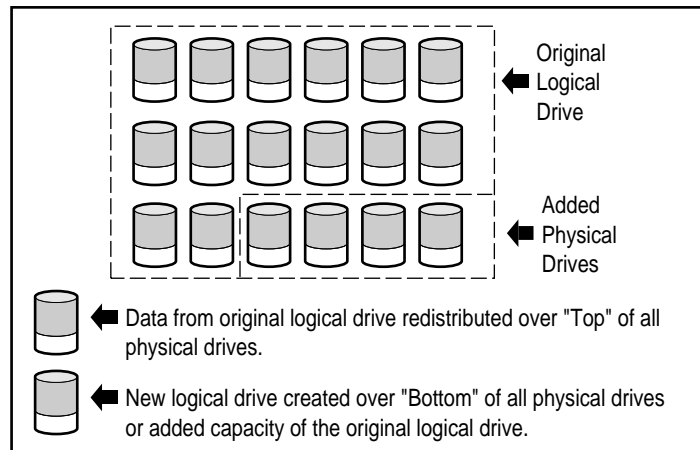

Figure E-10. Beginning capacity expansion by adding more physical drives
The Smart Array 3200 Controller enables the configuration of one or more separate logical drives into a single drive array. The controller also supports extending the capacity of an existing logical drive. An existing drive array can be expanded by adding one or more logical drives to the array or by increasing the capacity of an existing logical drive. To create the room for the additional logical drives, more physical drives must be added. See Figure E-10.
**Example:** Assume you have two ProLiant Storage Systems with a total of 10 drives and you want to expand this to 14 drives (the Smart Array 3200 Controller supports up to 30 drives). With the Array Configuration Utility running, simply install four matching drives in the empty drive bays. At this point your array will resemble Figure E-10, with the original data (original logical drive) represented by the gray shaded drives and the new drives unshaded. Run the Array Configuration Utility located on the Compaq SmartStart and Support Software CD to start the expansion process described in Chapter 5.